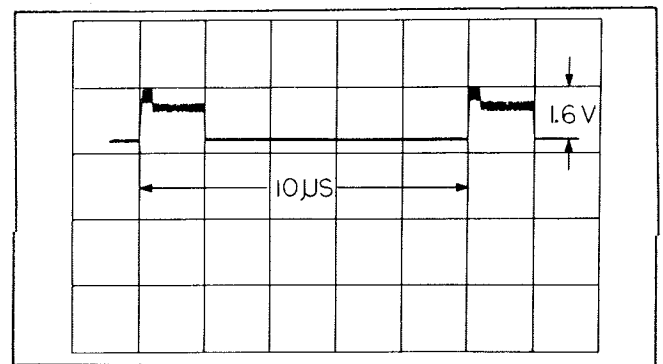

Figure 6.13 - Q17, Emitter Waveform
g. Reconnect oscilloscope to emitter of keyed oscillator Q17 (or left end of R51). The observed 100 KC waveform should resemble the one shown in figure 6.13.